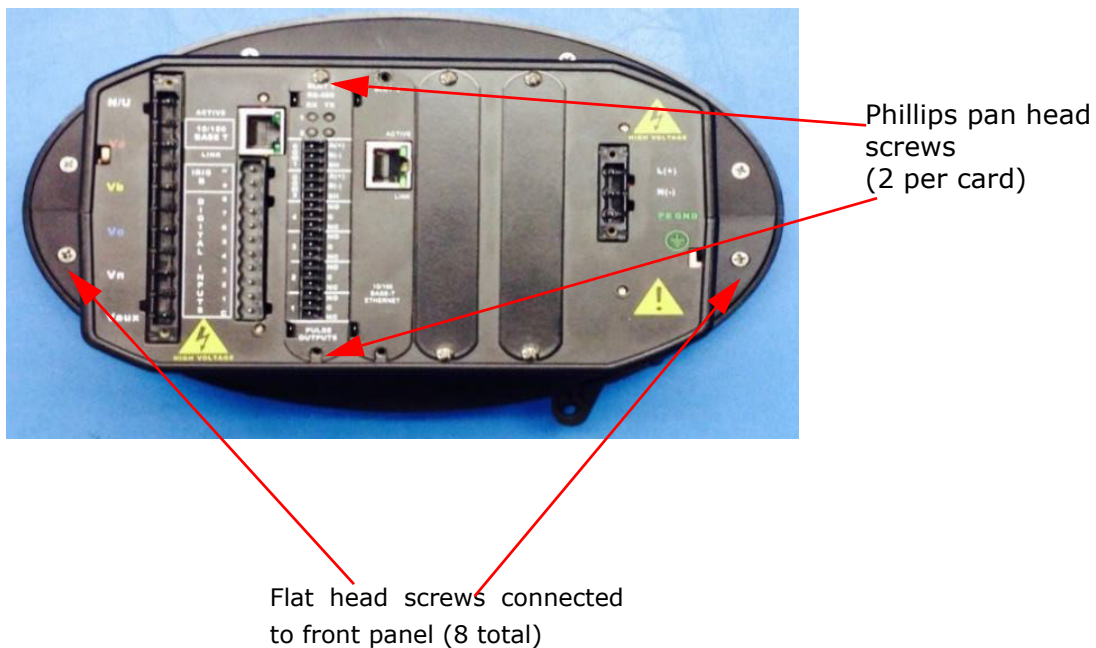

Figure 3-9: Location of Meter Screws
1. Turn the meter over and remove all of the option cards. Each option card is secured with two ¼ Phillips pan head screws (see *Using the I/O Options* on page 11-1). Refer to Figure 3-9.